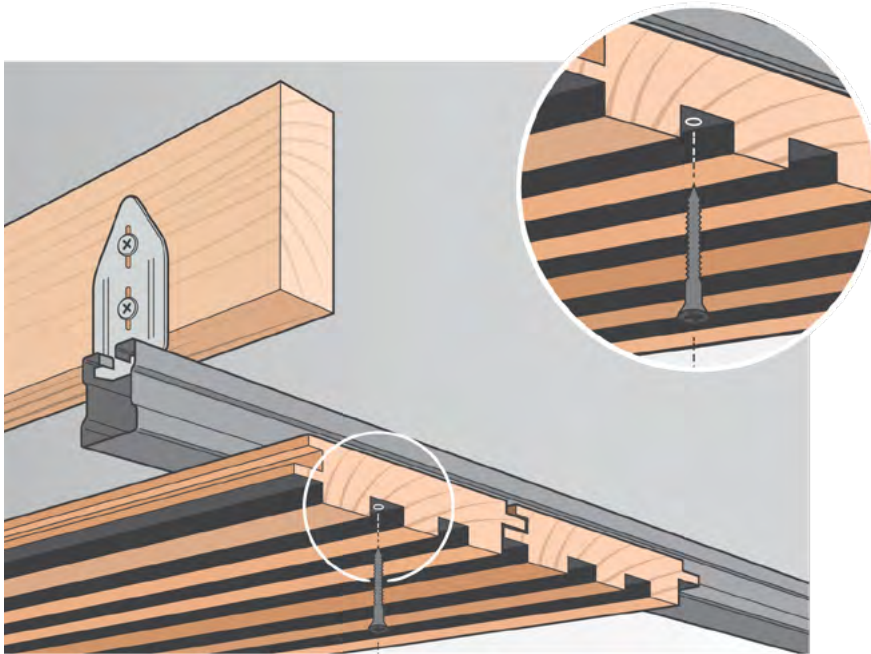

Figure 3: Panelling installation using metal track system and face fix; face screw directly using a coloured head screw (see Figure 4)
- **Castelation® panelling with channels** can be screwed through the channel to the metal track. One screw per board, per track is sufficient (see Figure 3). This works particularly well with the Castelation® Two Tone product as the screw heads can be painted the same colour as the channels.